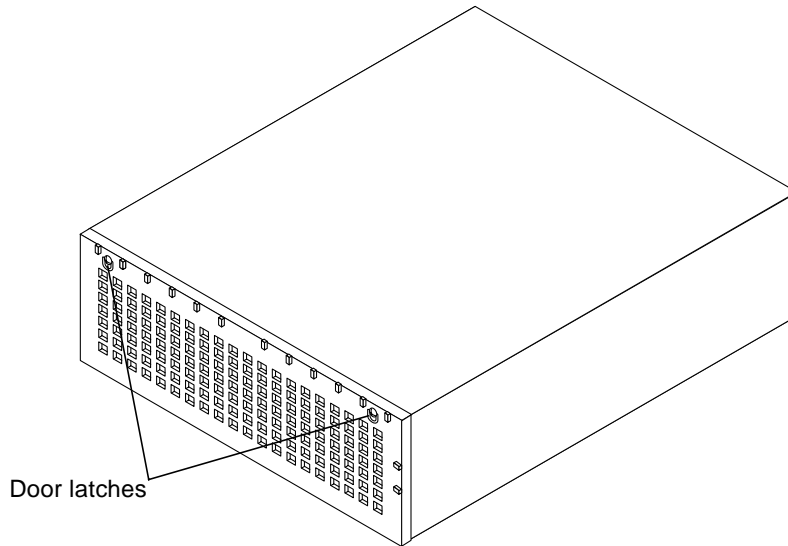

FIGURE 3-3 Opening the Front Door
1. Locate the two door latches at the front of the Netra st system (FIGURE 3-3).